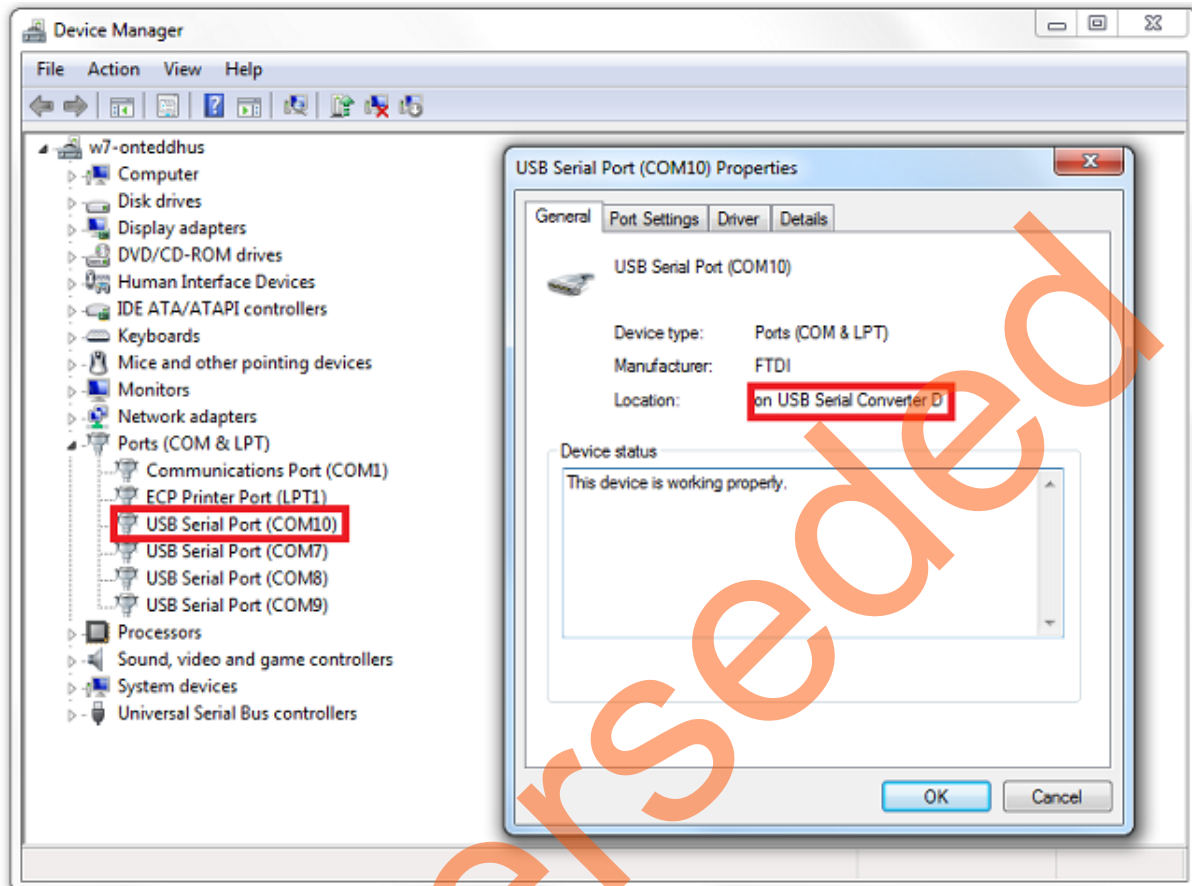

Figure 37 • Device Manager Window
8. Connect the host PC to the J24 connector using the USB min-B cable. The USB to UART bridge drivers are automatically detected. Verify if the detection is made in the device manager, as shown in Figure 37 on page 31.